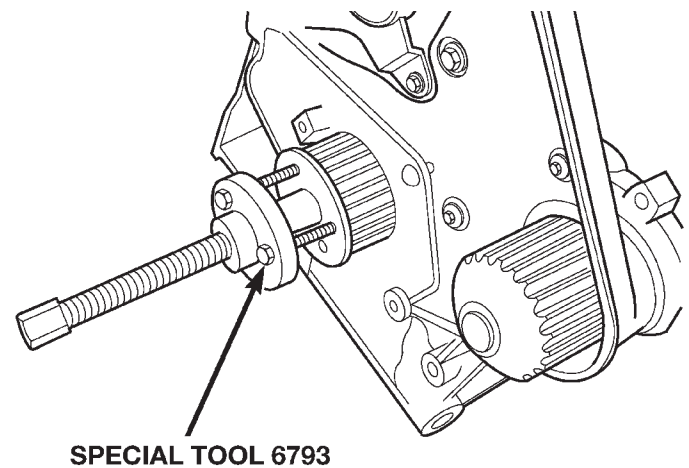

Fig. 92 Crankshaft Sprocket—Removal
(2) Remove outer timing belt cover and timing belt. Refer to procedure in this section.
(3) Remove crankshaft sprocket using Special Tool 6793 and insert C-4685-C2 (Fig. 92).